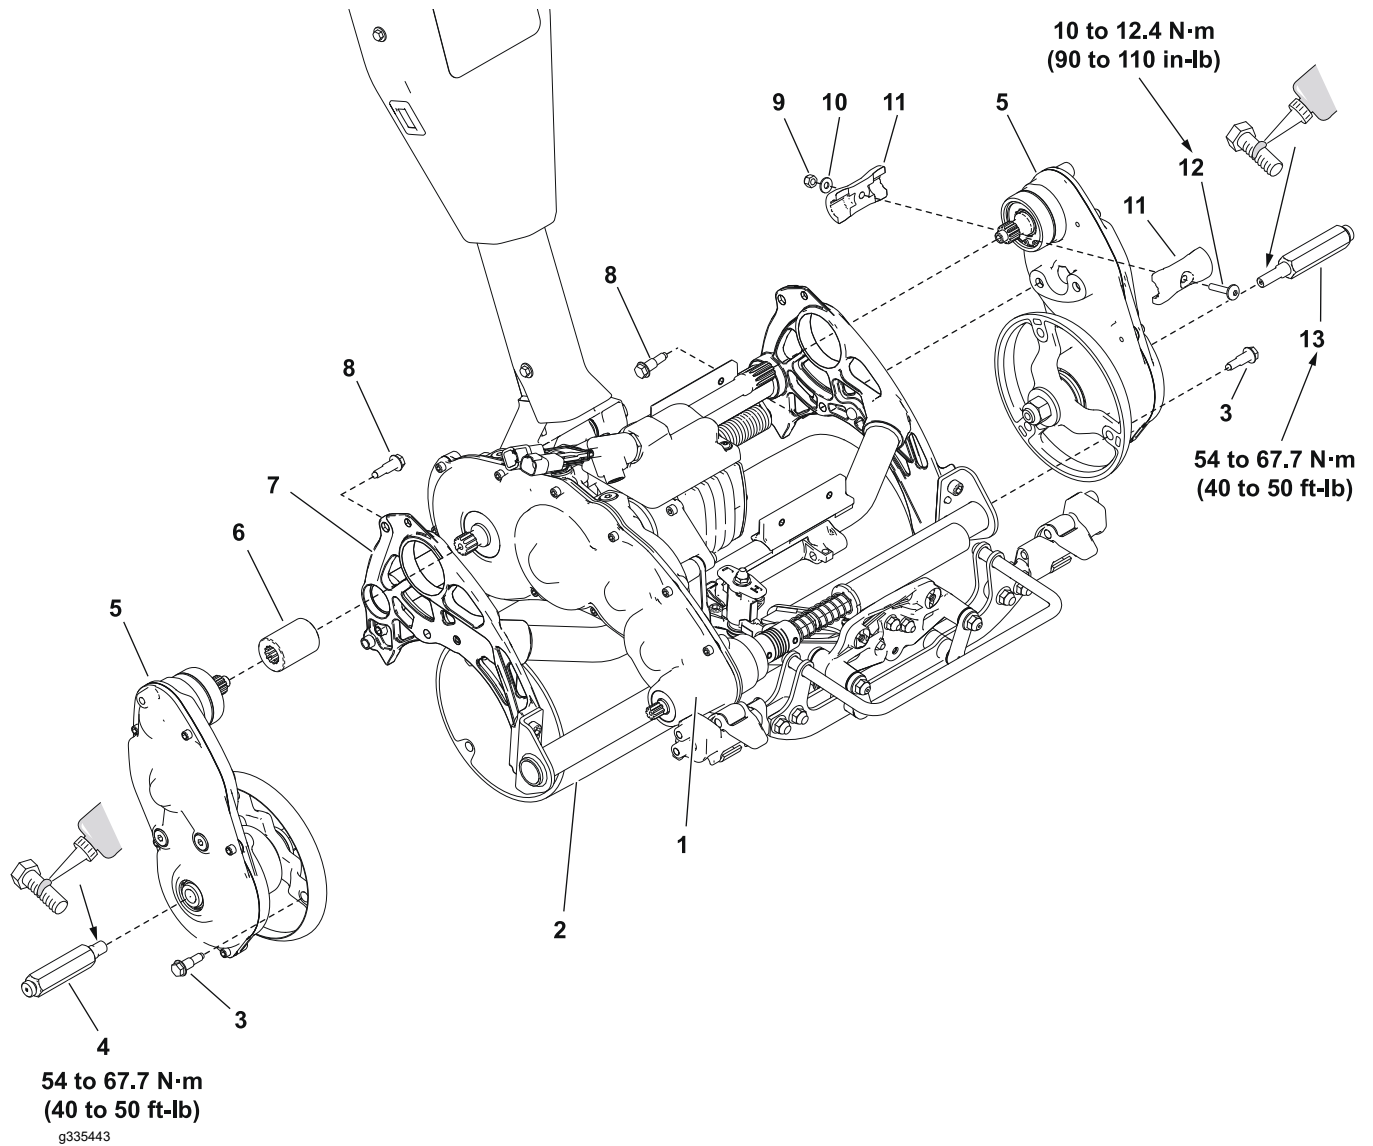

Figure 20
Note: Refer to Figure 20 during this procedure.
2. Remove the LH and RH drum drive gear box assemblies (item 5 in Figure 20); refer to Removing the Drum Drive Gear Box Assembly \(page 4–11\).
3. Remove the traction drum (2) from the frame assembly (7).
2. Position the LH and RH drum drive gear box assembly (item 5 in Figure 20) and traction drum (2) onto the frame assembly (7).
3. Secure the LH and RH drum drive gear box assembly (5) to the traction drum (2); refer to Installing the Drum Drive Gear Box Assembly \(page 4–16\).